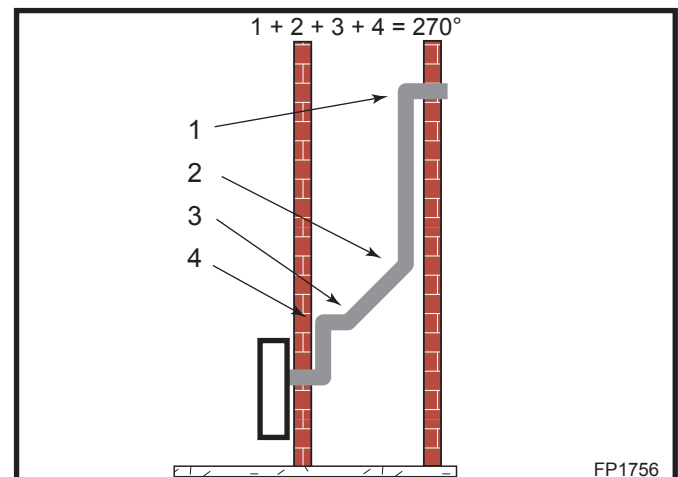

Fig. 22 Maximum elbow usage.
- The maximum number of 45° elbows permitted per side wall installation is two (2). These elbows can be installed in either the vertical or horizontal run.
- The maximum number of elbow degrees in a system is 270°. (Fig. 22)